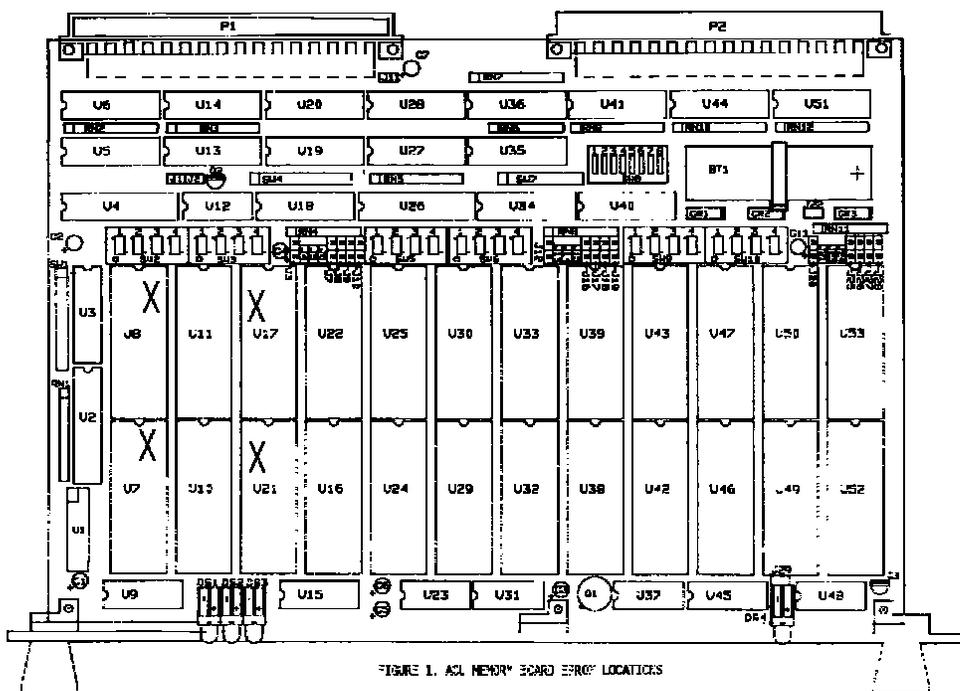

FIGURE 1. AGL MEMORY BOARD ERROR LOCATIONS
All ASOS application software is contained on four erasable programmable read only memory (EPROM) integrated circuits (IC) on ACU memory board 1A2A3. Figure 1 illustrates the ACU memory board and identifies the four EPROMs (U8, U17, U7, and U21). The EPROMs are 32-pin dual in-line package (DIP) CMOS devices, each providing 512K x 8 bits of storage. Upgrading ASOS software requires only replacing the four EPROMs on the ACU memory board with higher revision level ICs.
If the ACU PROMs in the system are 1.70 or higher, the ACU is no longer cold started by removing battery jumper J22 (Figure 1) to clear all RAM on the board. The next step requires receiving a download of site-specific data from the AOMC. The DCPs are cold started by performing a hard reset of each DCP from the processor status page on the OID. After completion of the upgrade procedure, the EPROMs removed from the ACU memory board should be packaged in appropriate electrostatic discharge (ESD) protective material for return.
4. Using IC insertion tool, remove new EPROM integrated circuits from protective packaging and insert into ACU memory board sockets in accordance with the following chart. Ensure that EPROMs are installed with pin 1 (as identified by notch in top of IC) oriented toward board connector P1 as shown on Figure 1.